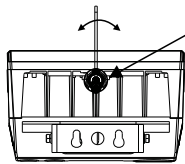

Fig. 12
- 2.) Using using a flat head screwdriver adjust the dial to the desired beam angle (Fig. 12).